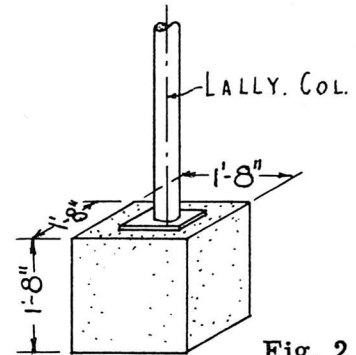

Fig. 2
- How many cubic yards of concrete are necessary to pour eight footings 20" x 20" x 20" for lally columns? See Figure 2.